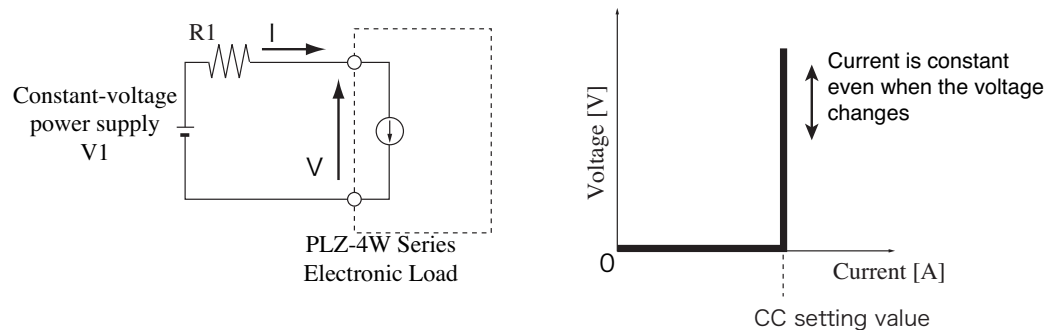

Fig. 3-4 Equivalent circuit of the constant current load and operation
When the PLZ-4W is used in CC mode, the PLZ-4W operates as a constant current load as shown in Fig. 3-4. The PLZ-4W sinks the specified current (I) independent of the output voltage of the constant-voltage power supply ($V1$).
We will consider the case when checking the load characteristics of the constant-voltage power supply of Fig. 3-4 using CC mode.